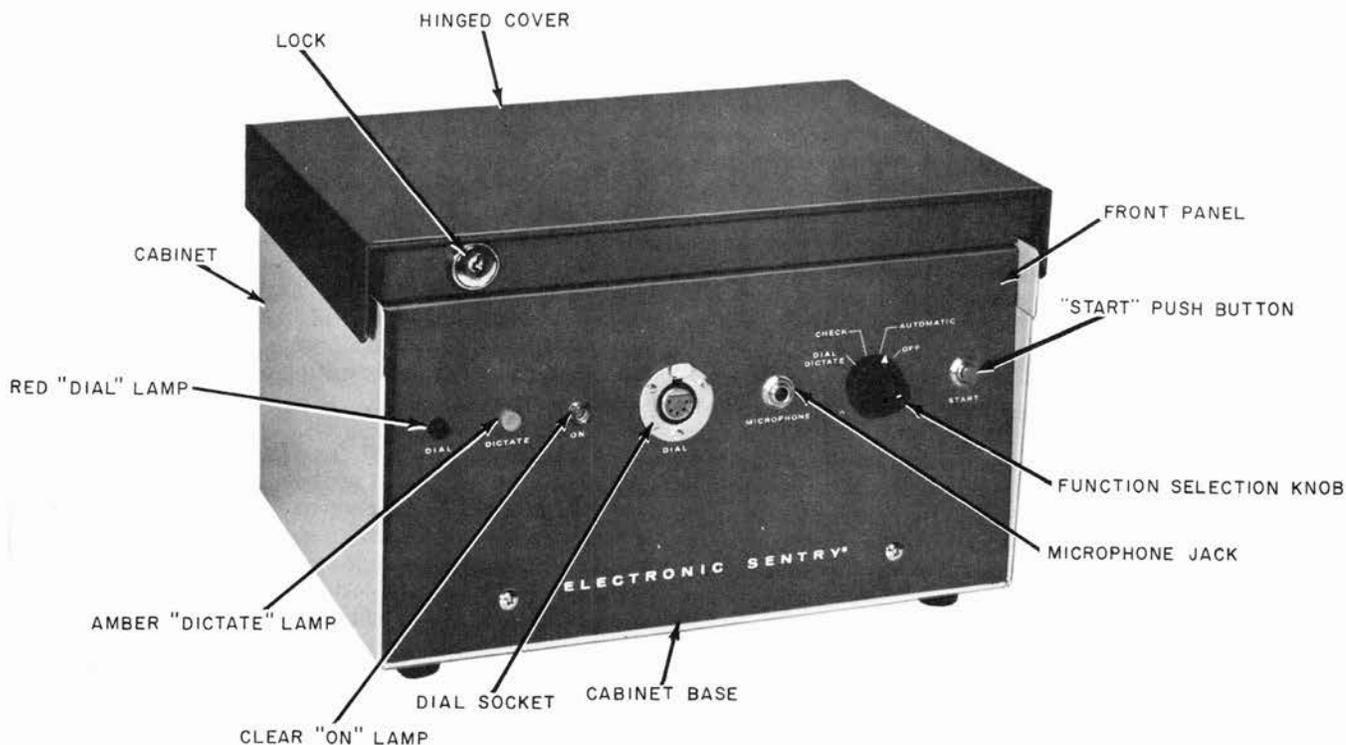

Figure 1. ELECTRONIC SENTRY Model 2 Warning Unit (Front View, Cover Down).
1.01 This Section describes the installation, operation, and field maintenance for the ELECTRONIC SENTRY Model 2 Warning Unit (see Figure 1).